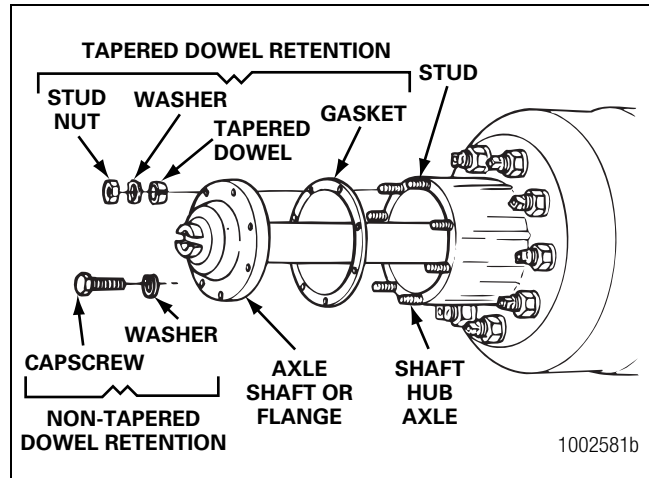

Figure 11.7
6. Remove the stud nuts or capscrews and washers from the flange of the axle shaft. Figure 11.7.
7. Loosen the tapered dowels, if used, in the flange of the axle shaft. Figure 11.7.
9. Remove the tapered dowels, gasket, if used, and the axle shaft from the axle assembly. Figure 11.7.
5. Install the gasket, if used, and axle shaft into the axle housing and carrier in the same location. The gasket and flange of the axle shaft must be flat against the hub. Rotate the axle shaft or the driveline as necessary to align the splines and the holes in the flange with the studs in the hub. Figure 11.7.